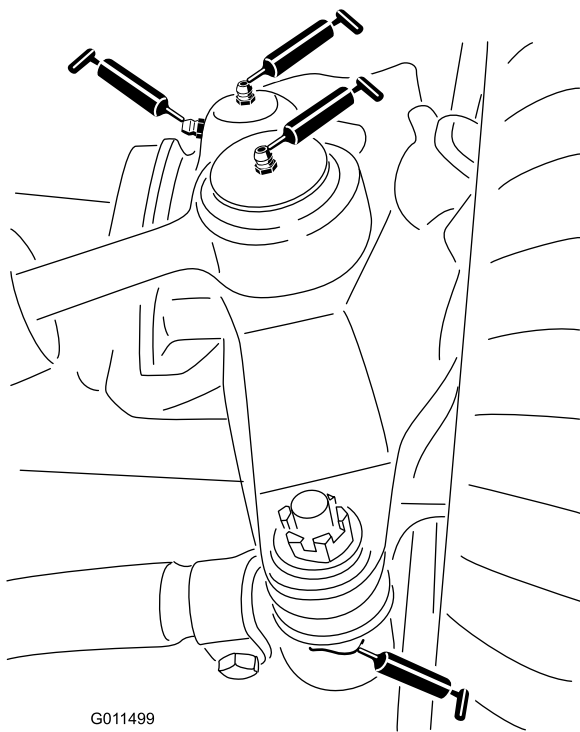

Figure 36
- 2 steering-cylinder-ball joints (Figure 36)
- 2 tie-rod-ball joints (Figure 36)
- 2 king-pin bushings (Figure 36).